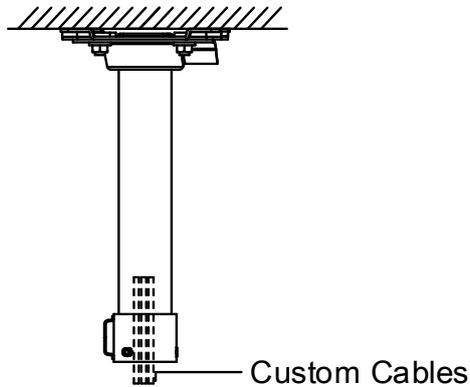

Figure 3-83 Fix the Bracket
- The bracket in Figure 3-83 is the recommended bracket for this series of speed dome, and a pendant adapter is required if any other bracket is selected. See Figure 3-11.